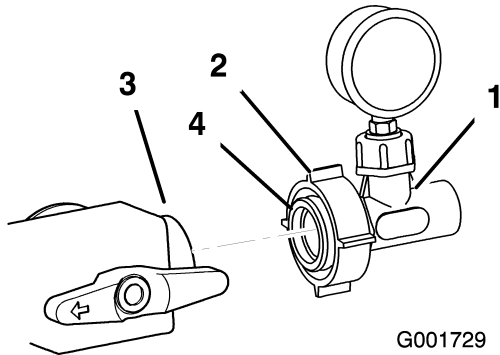

Figure 13
13. Lubricate the O-ring in the adapter with a non-petroleum based lubricant, such as vegetable oil (Figure 13).
(Figure 13). Tight the plastic nut to secure the assembly to the valve.